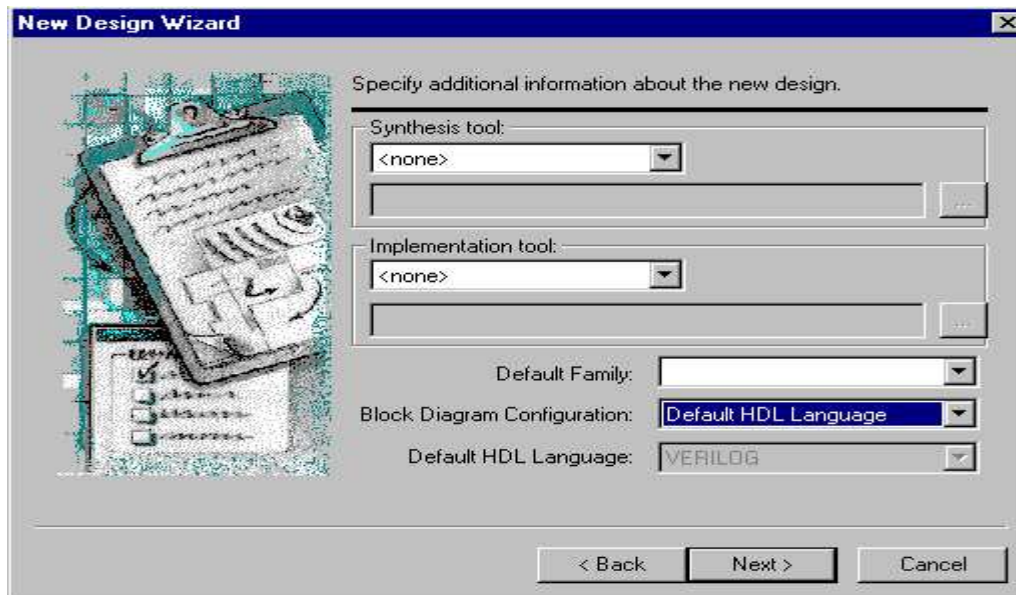

Figure 5
2. Find the “Block Diagram Configuration:” field and select the “Default HDL Language” option. Leave the “Synthesis tool:” field and the “Implementation tool:” field blank since we will not be synthesizing yet. Your New Design Wizard window should look like Figure 5. If so, then click the Next button.